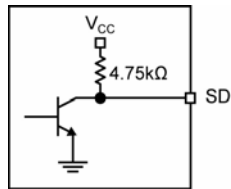

Figure 4. SD Output Structure
The SY88345BL generates a chatter-free SD open-collector TTL output with an internal $4.75\text{k}\Omega$ pull-up resistor, as shown in Figure 4. SD is used to determine that the input amplitude is large enough to be considered a valid input. SD asserts high if the input amplitude rises above the threshold sets by SD_{LVL} and de-asserts low otherwise. SD can be fed back to the enable (EN) input to maintain output stability under a loss-of-signal condition. EN de-asserts the true output signal without removing the input signals. Typically, 3.5dB SD hysteresis is provided to prevent chattering.